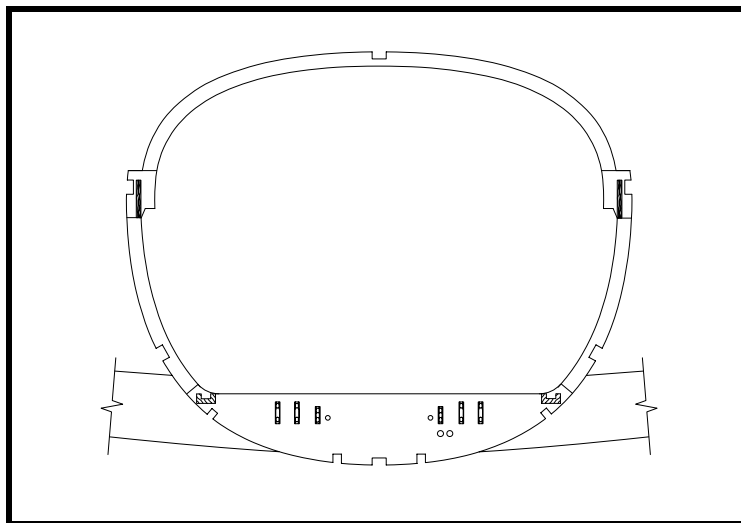

Figure 19
- ❑ Install two 10x10 spruce strips on the aft face of fuselage frame No. 3 as shown in Figure 19. These strips will pick up the inside cockpit skin and carry it up to the cockpit coaming.